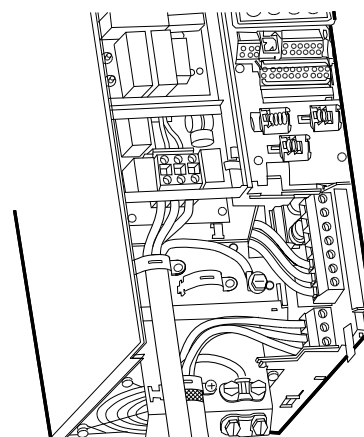

Fig. 16 Mains and motor connection, B3
1. Connect the ground conductor to terminal 95 (PE). See figures 16 and 17.
1. Connect the ground conductor to terminal 99 (PE). See figures 16 and 17.
2. Connect the motor conductors to terminals 96 (U), 97 (V), 98 (W).